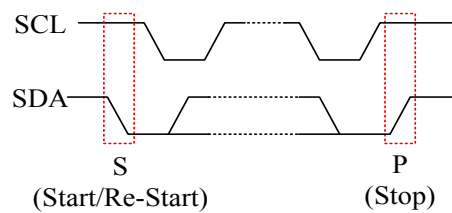

Figure 3-28 Start & Stop Timing
- Start/Re-Start: SDA change from HIGH to LOW while SCL is HIGH, See Figure 3-28;
- Stop: SDA change from LOW to HIGH while SCL is HIGH, see Figure 3-28;